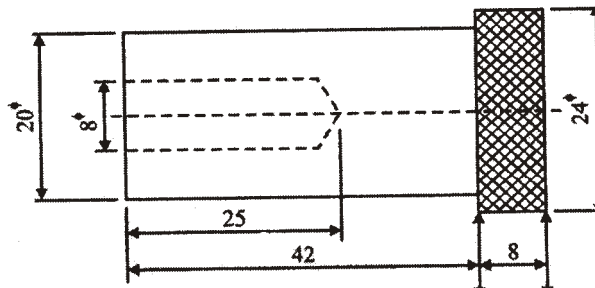

Fig.2.(All dimensions are in mm)
- * **14.** A mild steel shaft, shown in Fig. 2 is to be turned from a 24-mm dia bar. The complete machining consists of the following steps :